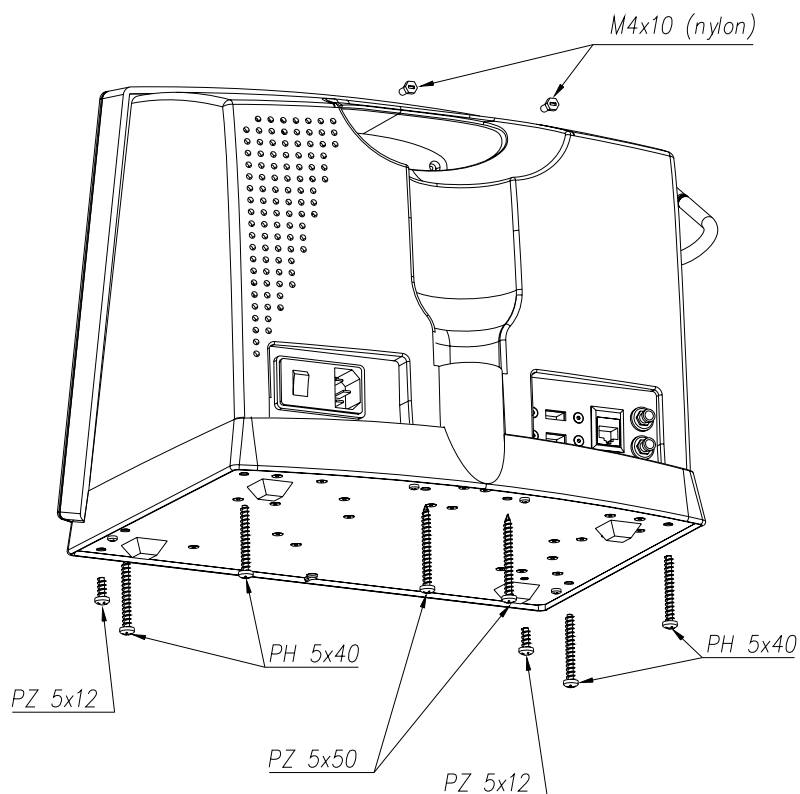

Figure 7.2-1 Disassembly cabinet – screws.
- 3) Unscrew the 2 nylon screws at the handle -see figure 7.2-1.
- 4) Unscrew the 8 screws at the bottom of the Innocor - see figure 7.2-1. Note, the 2 screws near the gas cylinder interface are longer than the others, and that the 2 screws at front are shorter.